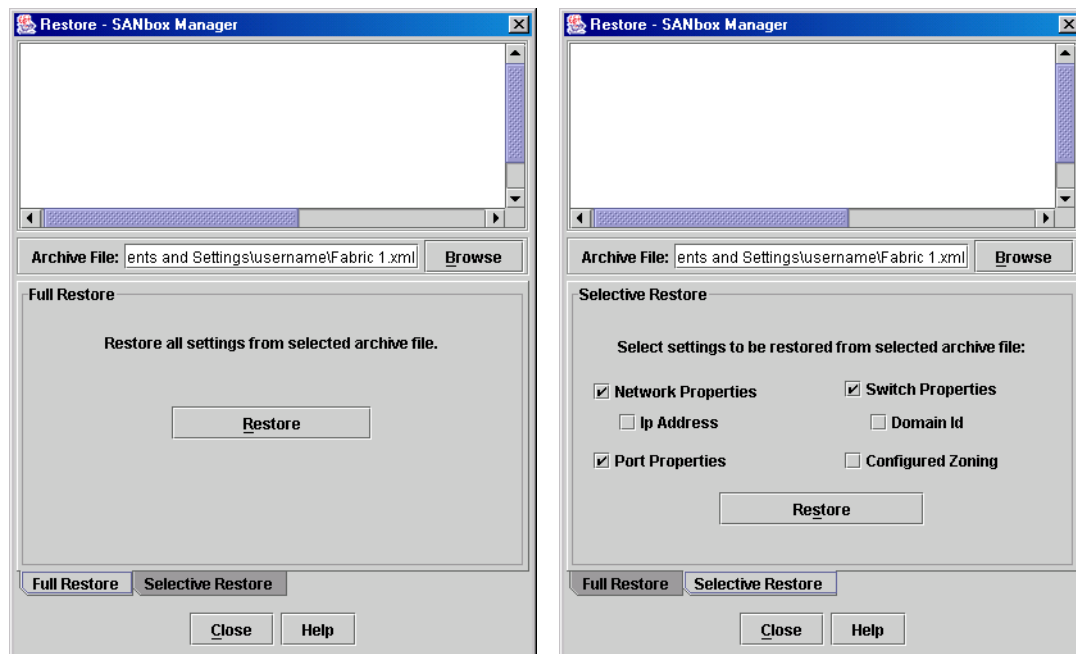

Figure 4-10. Restore Dialogs – Full and Selective
2. Open the Switch menu and select **Restore** to display the Restore dialog shown in Figure 4-10. The Restore dialog offers a **Full Restore** and a **Selective Restore** tab.